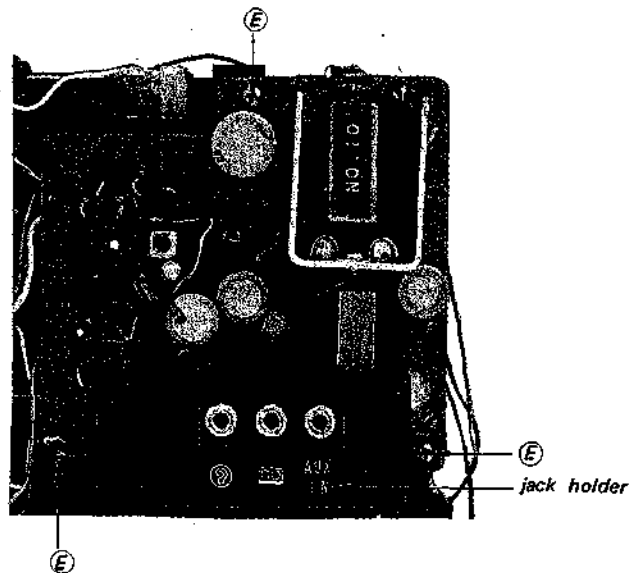

Fig. 2-7 IF-AF circuit board removal, steps 2 and 3
2. Pull off the jack holder carefully shown in Fig. 2-7.
3. Remove the three screws labeled (E) in Fig. 2-7.